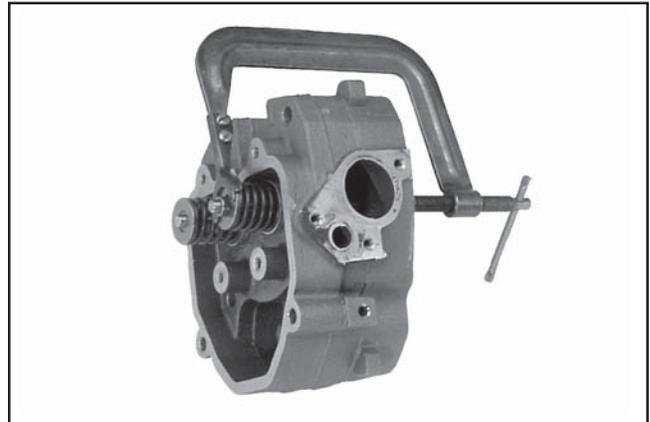

Figure 9-55. Compressing Valve Springs.
2. Compress the valve springs using a valve spring compressor and remove the valve spring keepers. Remove the compressor. See Figure 9-55.